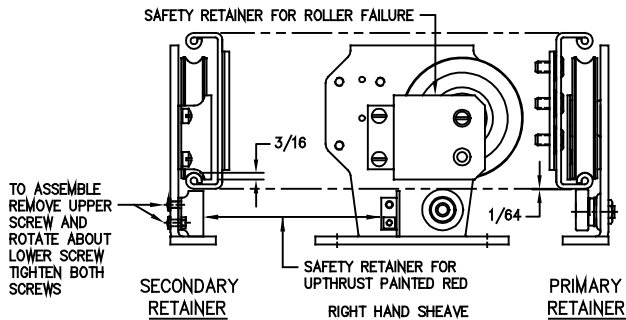

FIG. 3
- 3.- MOUNT TRACK TO HEADER AND SET ECCENTRIC CAM SO THAT THE TRACK IS IN THE LOWEST POSITION. HAND TIGHTEN ALL SCREWS. FIG. 3